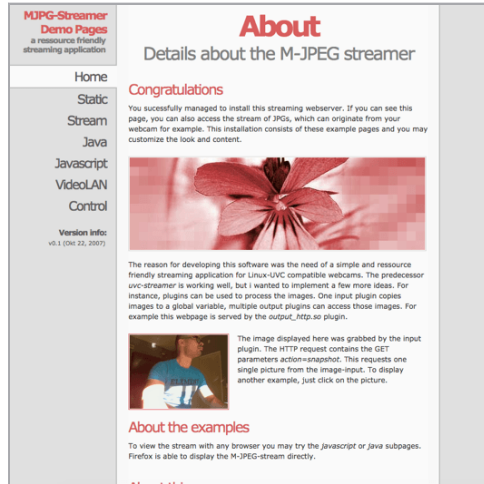

Figure 8-13 MJPG-Streamer connected to camera
14. You should now see a page that looks like Figure 8-13. In the second picture, under the flower, if you see a snapshot of what your camera sees, then the setup is working.